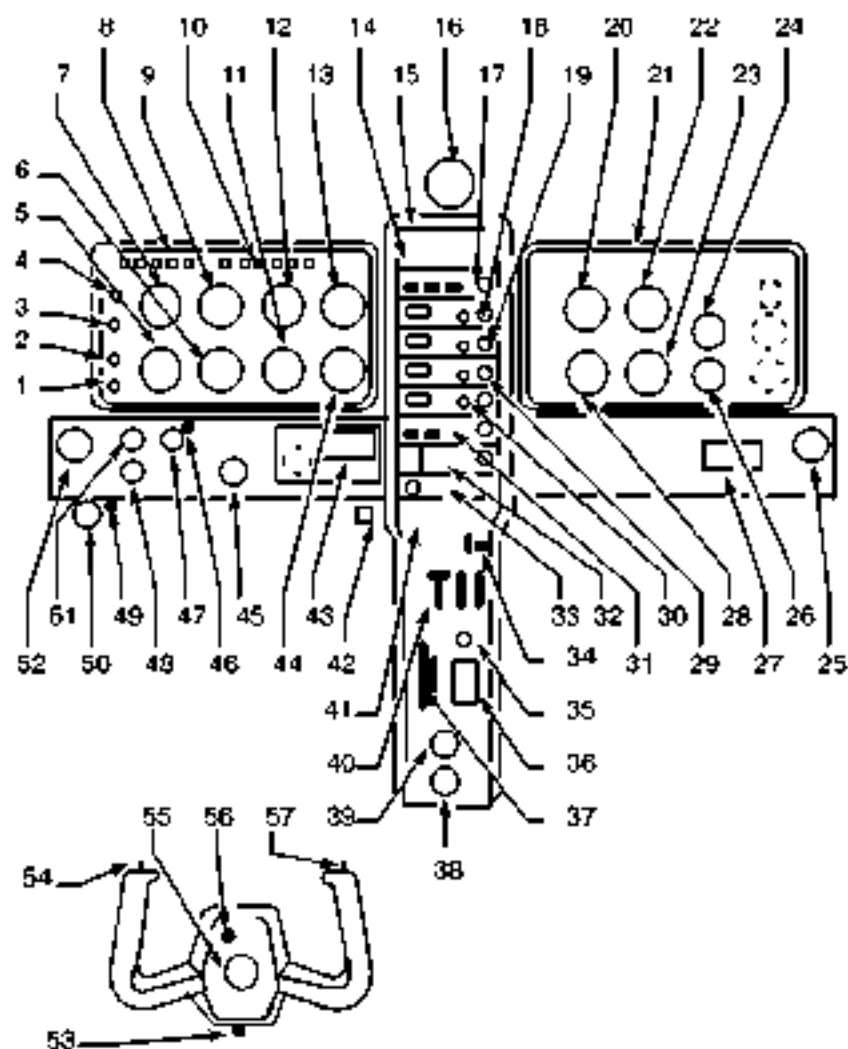

Figure 9.1.3 - EXAMPLE OF INSTRUMENT PANEL - IFR -
- See Figure 9.1.3.
- From overhead lights controlled by turning post lights and regulated by the "Emergency" control. See Figure 9.1.3.
- Front overhead lights controlled and regulated by the "Emergency" control. See Figure 9.1.3.